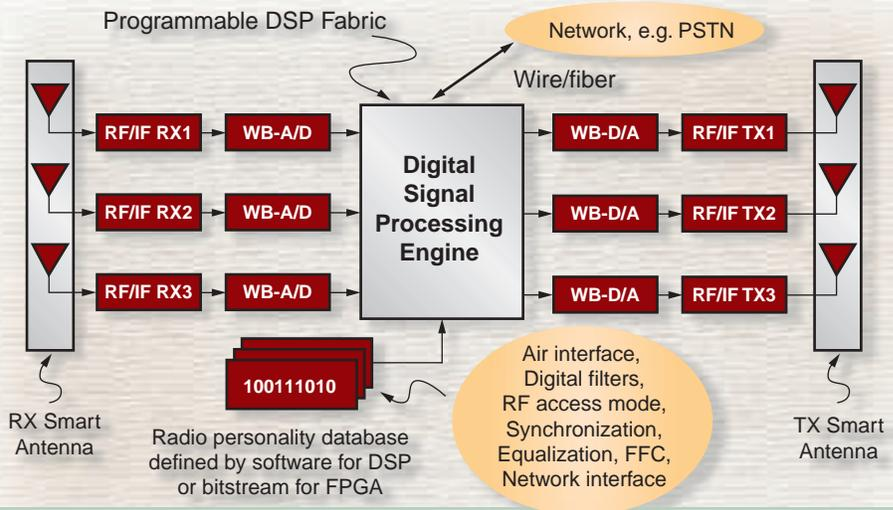
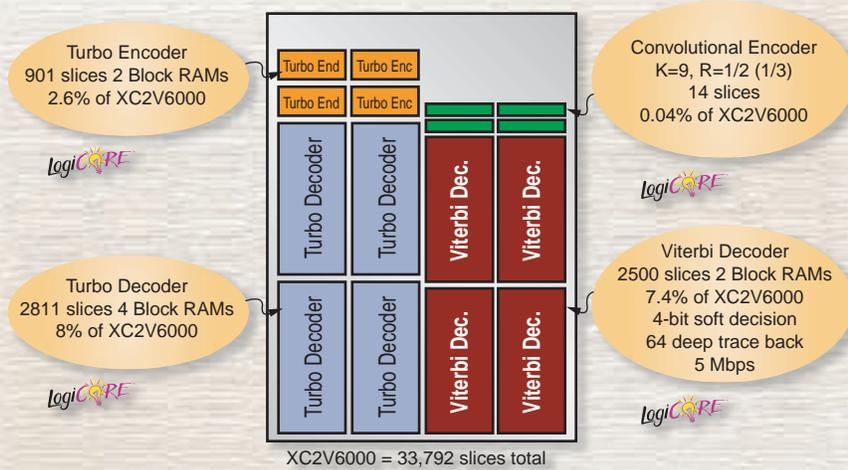

Figure 1 - SDR system diagram
Figure 2. Virtex-II Integrates a 3G FEC Farm
An example of an SDR system is shown in Figure 1. Digital filters are at the heart of the system. On the transmit side these filters help shape and translate a signal from the baseband to the Intermediate Frequency (IF) before it is converted to an analog signal and sent by the antenna. On the receive side, filters are used in the digital down converter, in the channel equalizer, and for the digital re-sampling of a signal in the timing recovery and acquisition loop. With recent FPGA technology, these essential filter functions are easily designed using the highly parallel structure of a Virtex-II FPGA. Figure 2 shows how the Virtex-II platform can be used to implement a “farm” of forward error correction (FEC) algorithms.